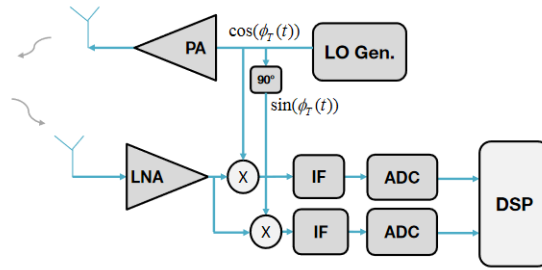

FIGURE 3 – Example of a complex-baseband architecture including an I & Q demodulator. [4]
- **The sampling frequency** is the frequency at which the I and Q data are sampled by the ADC. See figure 3